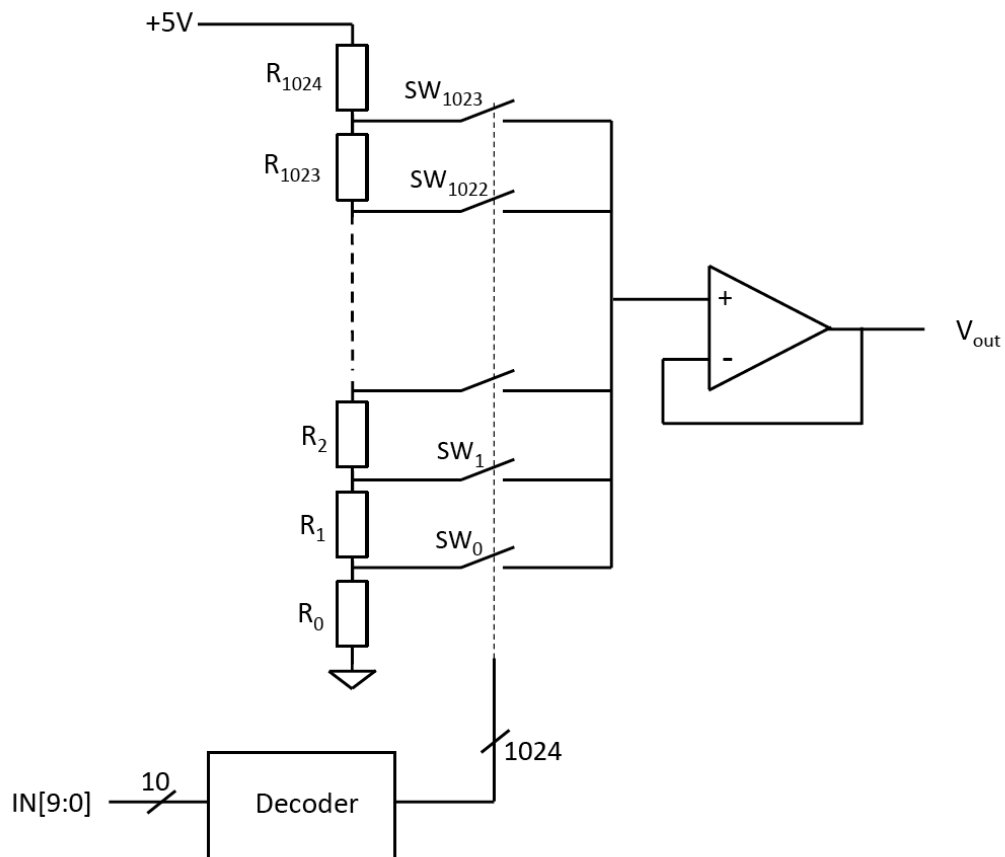

Figure 1.6
- (e) *Figure 1.6* shows the schematic diagram of a resistor network DAC consisting of 1025 identical resistors R_0 to R_{1024} , 1024 analogue switches SW_0 to SW_{1023} , an operational amplifier and a digital decoder circuit. The input to the DAC is $IN[9:0]$ and the output is V_{out} .